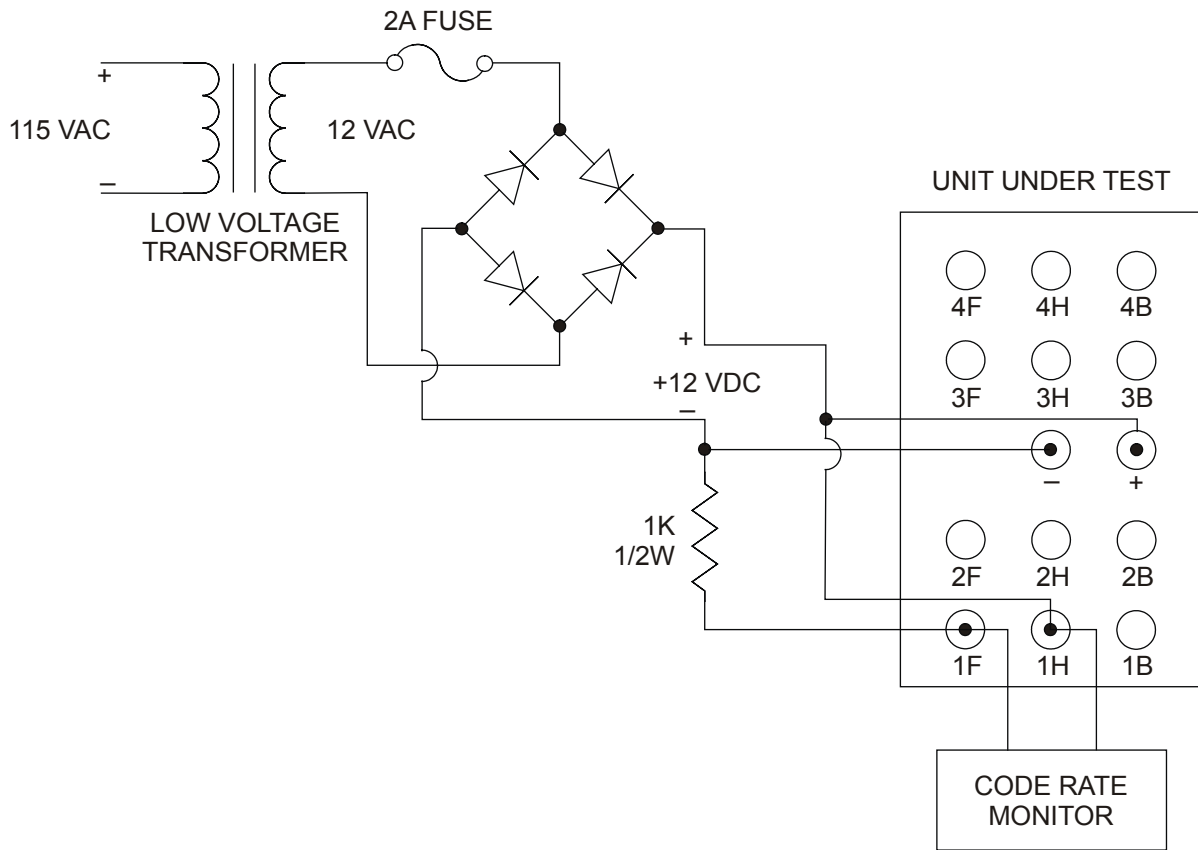

Figure 5-1 - DM SSCT Test Circuit
Do not attempt to electrically test the SSCT in any other manner than that depicted by the test circuit of Figure 5-1. If any other testing method is used, damage to the equipment could result. Construct the test circuit as shown in Figure 5-1.
1. Connect the SSCT per Figure 5-1.